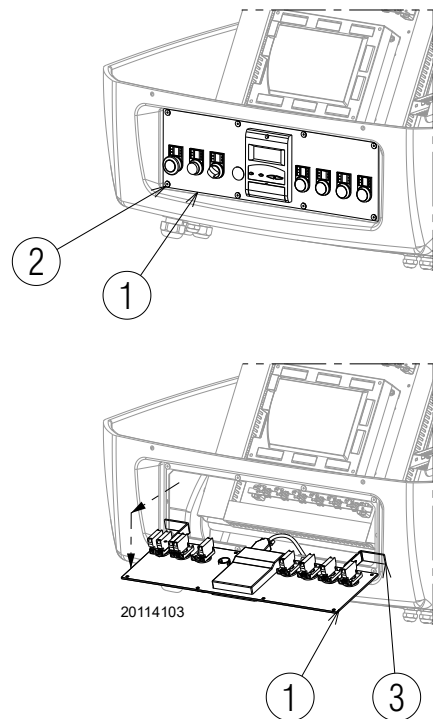

Fig. 42
- extract the control panel 1) and turn it 90°, hooking it with the brackets 3) in the profile of the electrical panel as shown in Fig. 42;